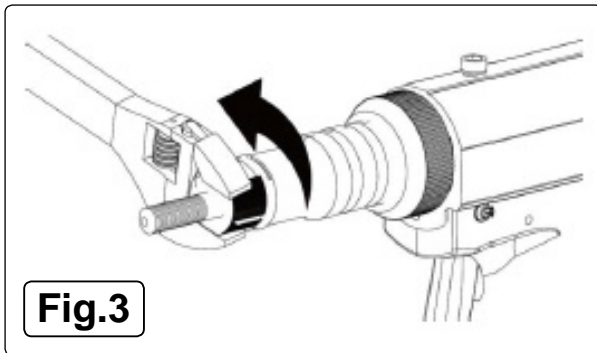

Fig.3
- 5.1.2. Remove anvil and locknut, fig.3.